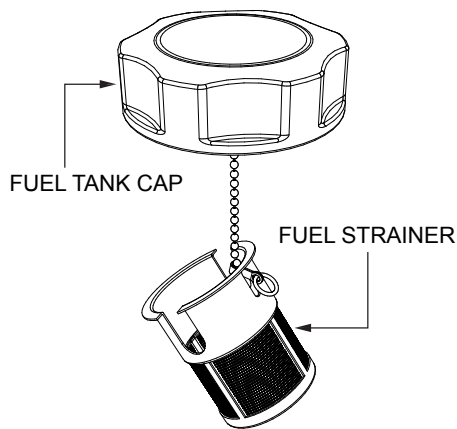

Figure 37. Fuel Strainer
3. Remove, inspect and clean the fuel strainer (Figure 37) with solvent.